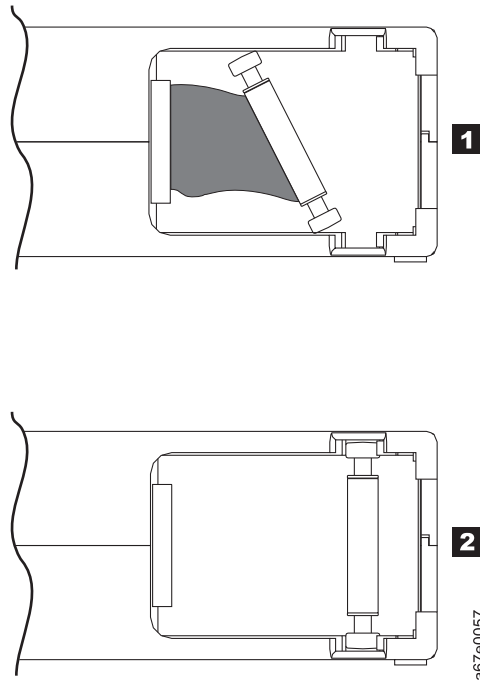

Figure 4-8. Leader pin in the incorrect and correct positions. The cartridge door is open and the leader pin is visible inside the cartridge.
- Check that the leader pin is properly seated (see **2** in Figure 4-8 on page 4-12).
- Do not drop the cartridge. If the cartridge drops, slide the cartridge door back and ensure that the leader pin is properly seated in the pin-retaining spring clips (see **2** in Figure 4-8 on page 4-12). If the leader pin has become dislodged, go to “Repositioning or Reattaching a Leader Pin” on page 4-11.
Example: Improper Placement of Leader Pin (see Figure 4-8 on page 4-12)
A leader pin that is improperly seated inside a cartridge can interfere with the operation of the drive. Figure 4-8 on page 4-12 shows a leader pin in the incorrect **1** and correct **2** positions.